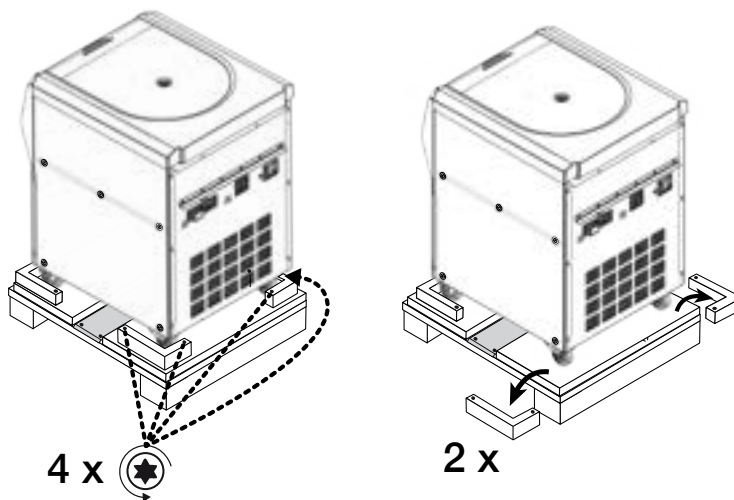

Figure 1-6: Removing the Stops from the Pallet
8. Using a screwdriver, unscrew the woodscrews (two times two pieces, as indicated on the left side of Figure 1-6) from the angular stops on the rear corners of the pallet.
9. Remove the two rear stops from the pallet, as shown on the right side in Figure 1-6.